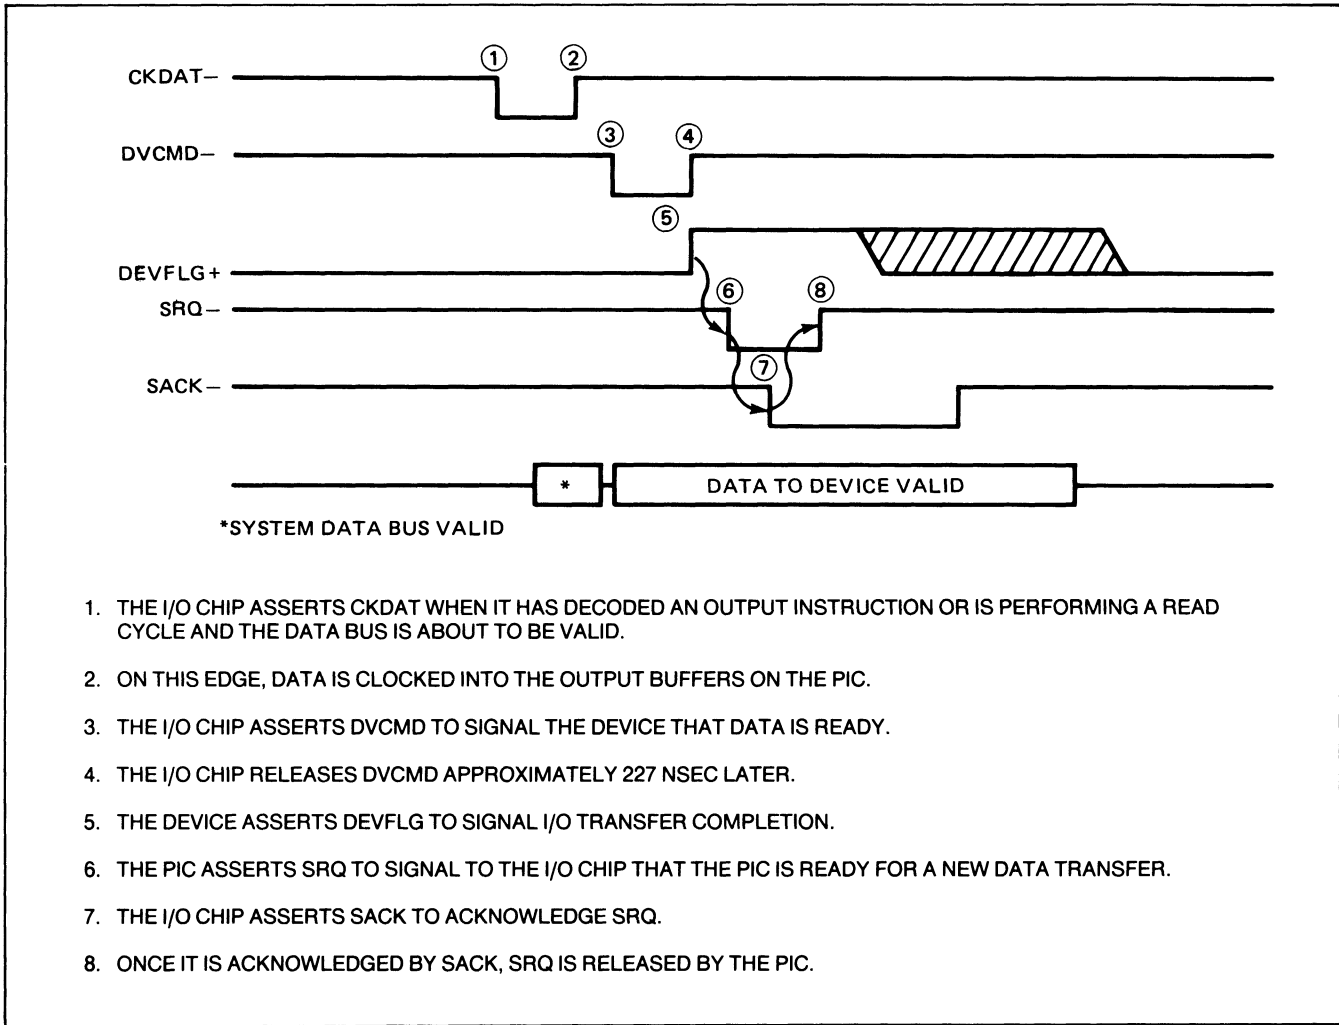

Figure 4-3. Output Transfer Timing
**4-6. OUTPUT OPERATION.** An output operation is defined as a data transfer from the computer to a peripheral device. The protocol for an output transfer is illustrated in figure 4-3.